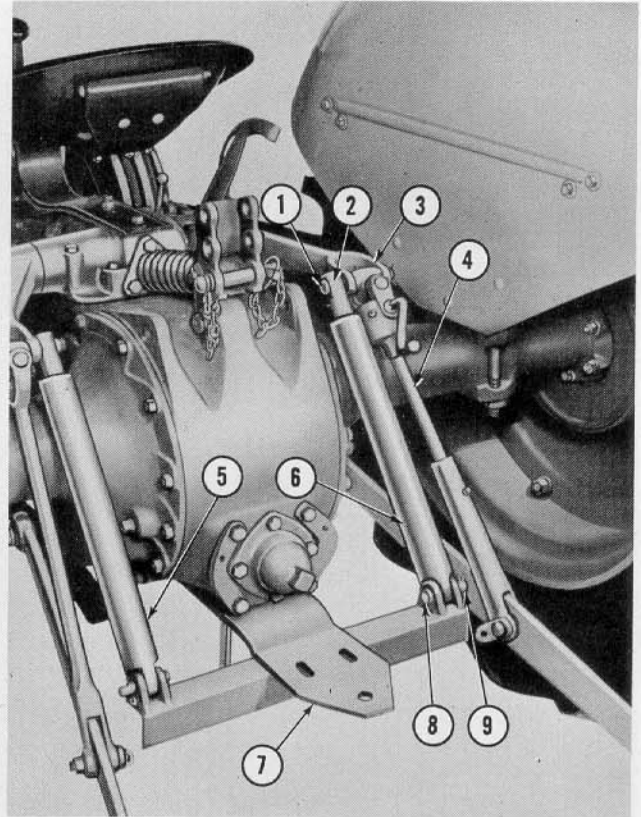
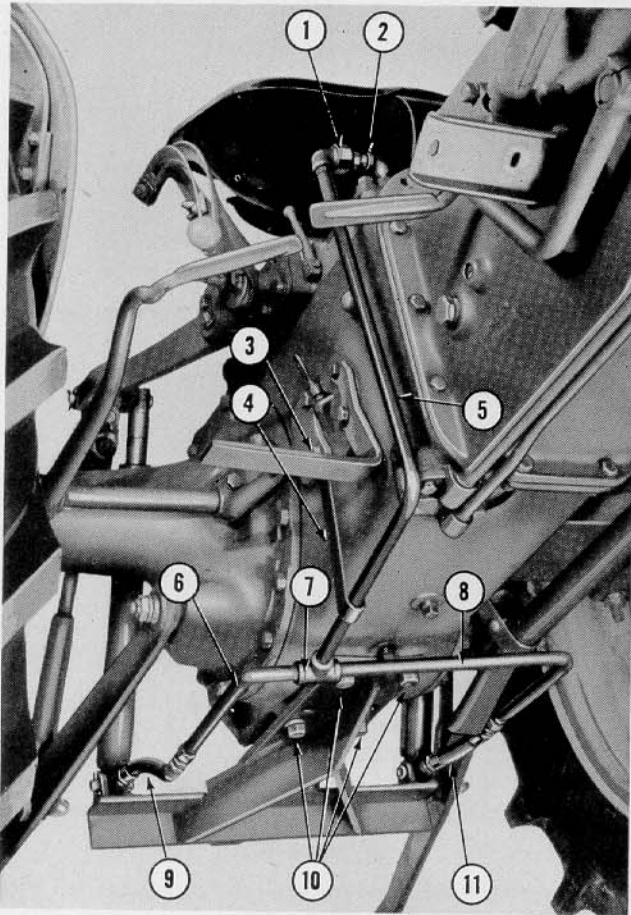

Figure 3
Figure 4
- a. Remove the tractor check chains as shown in Figure 3. These chains cannot be used on the tractor when the Rear Mounted Loader is installed.
- b. Remove the tractor drawbar clevis assembly and attach the implement hitch plate (7), Figure 3, to the tractor with the four lock-washers and bolts (10), Figure 4.
- c. Position the right hydraulic cylinder (6), Figure 3, on the cylinder bracket as shown, and
- d. Attach the cylinder ram (2), Figure 3, to the right hand tractor lift arm (3) and the lift rod (4) with the long pin (1) and secure with a cotter pin as shown.
- e. Attach the left hydraulic cylinder (5), Figure 3, in the same manner as outlined in steps (c) and (d) for the right cylinder.
- a. Attach the two hydraulic hoses (9) and (11), Figure 4, to the pipe tapped holes at the base of each hydraulic cylinder.
- b. Assemble the left and right pipes (6) and (8), Figure 4, to the tee (7). Next, attach the main hydraulic pipe (5) to the tee (7), and the union street ell (1) to the top of the main pipe (5) as shown.
- c. Place a drain pan under the tractor to catch any oil leakage and remove the plug from the outlet in the hydraulic manifold plate (Part No. NAA-475-A). Coat the threads of the street ell (2), Figure 4, with pipe compound and turn it into the tapped hole in the manifold plate.
- d. Attach the pipe hanger (4), Figure 4, to the tractor right side as shown with the bolt (3) located on the tractor.
**NOTE:** The tractor right running board has been removed in Figure 4 for illustration purposes.
- e. Position the pipe assembly on the hanger (4), Figure 4, as shown and attach the free ends of the hoses (9) and (11) to the pipes (6) and (8). Connect the union street ell (1) and the street ell (2) and tighten securely.